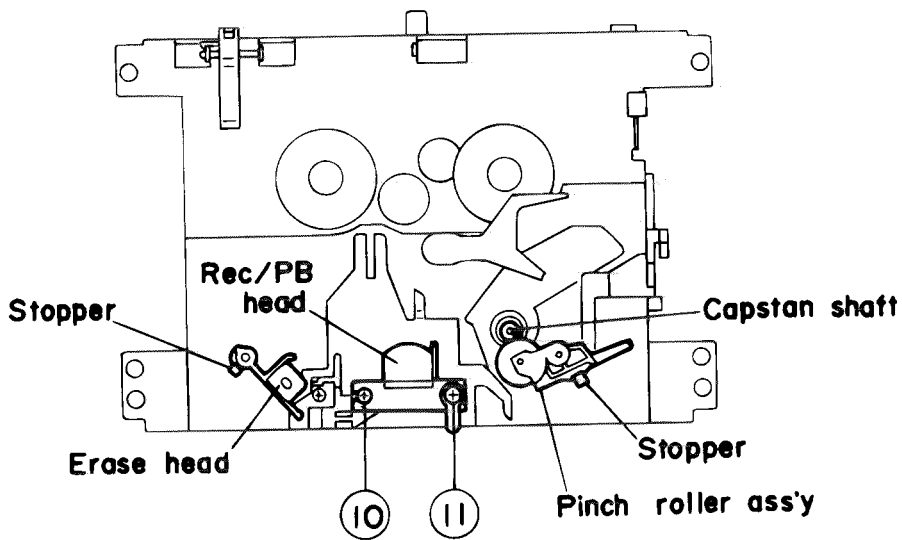
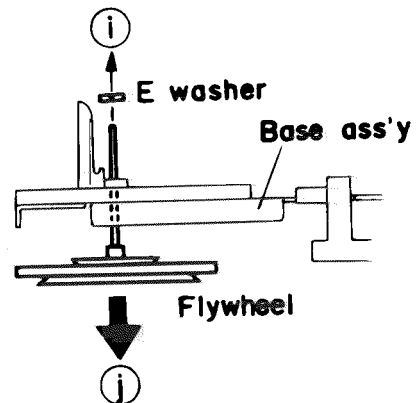

Fig.2-13
Fig.2-16
■ **Pinch roller assembly** (Fig.2-13 to 2-14)
1. Pull out the stopper protruding from the base assembly in the direction of the arrow ⑤ to remove it from the pinch roller assembly.
2. Then, pull out the pinch roller assembly in the direction of the arrow ⑥.
■ **Rec /PB head and erase head** (Fig.2-13 to 2-15)
1. Remove two screws ⑩, ⑪ retaining the Rec/PB head.
2. Pull out the stopper of the erase head in the direction of the arrow ⑧.
3. Pull out the erase head in the direction of the arrow ⑨.
■ **Flywheel assembly** (Fig.2-16)
1. Remove the split washer retaining the flywheel assembly in the direction of the arrow ⑩.
2. Pull the flywheel assembly out of the back side of the cassette mechanism assembly in the direction of the arrow ⑪.